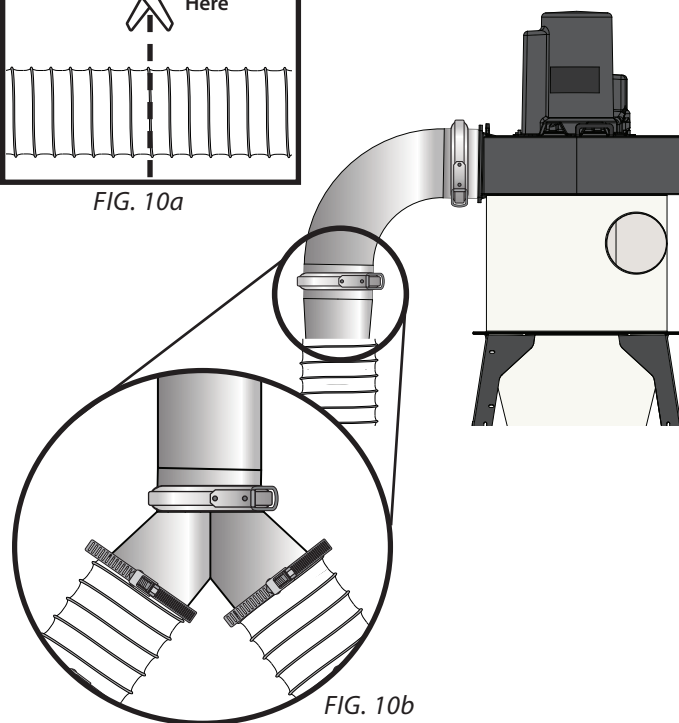

FIG. 10b
Attach both pieces of 7" Diameter Flex Hose to the 8x7x7 Pants Wye (I), and secure them in place with the 6-8" Hose Clamps (J). Repeat the process to attach the opposite end of each Hose onto the openings on the Dual Filter Plate (L) [FIG. 10b].